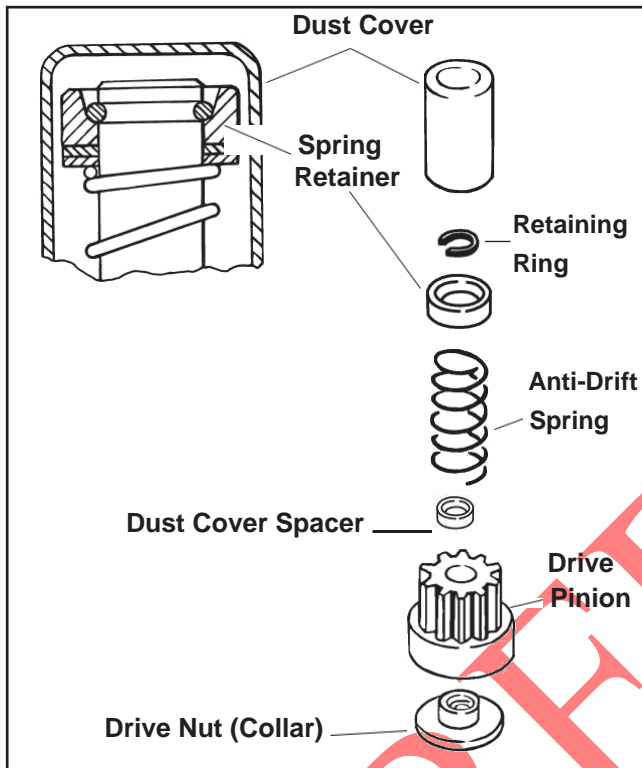

Figure 8-17. Drive Components, "Bonded" Inertia Drive Starter.
1. The rubber dust cover has a molded lip on the inside that snaps into a groove in the dust cover spacer (see Figure 8-17). Turn the drive pinion clockwise until it reaches the fully extended position. While holding it in the extended position, grasp the tip of the dust cover with a pliers or vise grip and pull it free from the spacer.
3. Again referring to Figure 8-17, grasp the spring retainer and push it toward the starter, compressing the anti-drift spring and exposing the retaining ring.